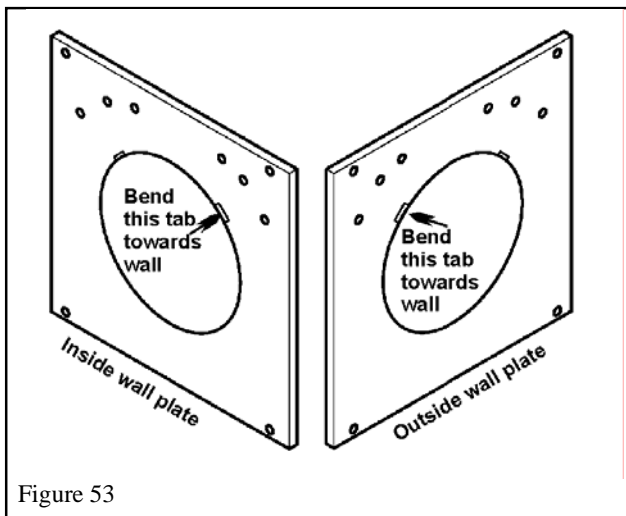

Figure 53
2. Bend the inner wall plate tab as shown in figure 53 so that the seam on the terminal tube will pass clearly through the plate with the wall shield at the top. Place the inner wall plate over the terminal unit. Slide the appliance towards the wall so that the terminal enters the wall. Slide the inner wall plate up to the wall. Mark the four holes for the wall screws. Slide the plate away.
2. Bend the outer wall plate tab as shown in figure 53. Place the outer wall plate over the terminal unit. Slide the wall plate up to the wall. Mark the four holes for the wall screws. Slide the plate away.